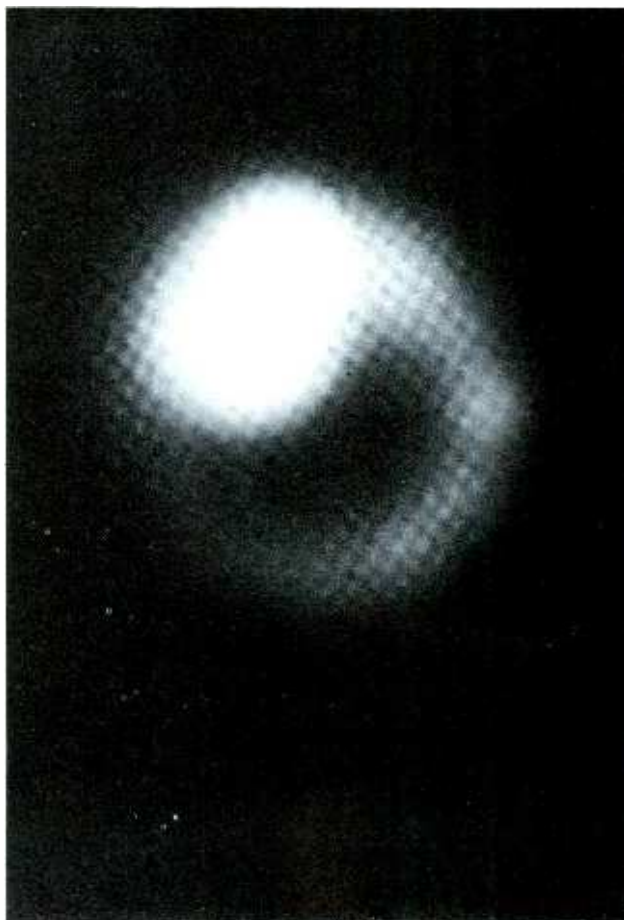

Fig. 4. Results of film exposed to clock with luminous dial.
After seeing the results of radiant energy from high-frequency X-rays in the preceding experiment, we decided to relate our findings to more familiar sources of radiant energy. The simplest way to do this, it seemed, would be to use an old fashioned alarm clock with a luminous dial and hands. Older clocks utilized radium in the fluorescent mixture; so we used one of these, exposed the clock face to light and then used the radiant energy to expose another film. The results of this experiment are shown in Fig. 4.
It must be noted that in this last experiment the frequency of the radiated energy is lower than that of X-rays and falls in the frequency range of light. Therefore, light energy also had a bearing on the exposure of the film. The results in Fig. 4 were produced after only 5 minutes of exposure.
*the X-radiation energy. Therefore, the level of exposure of the film in Fig. 4 is not a direct indication of the amount of X-radiation present at the time the film was exposed.)*